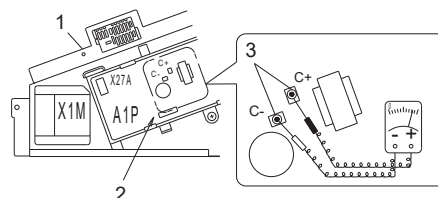

Figure 1
- After opening the control box lid, measure residual voltage between the points shown in **Fig. 1** on the printed circuit board by the tester without touching the live part and confirm that the residual voltage is DC50V or below.